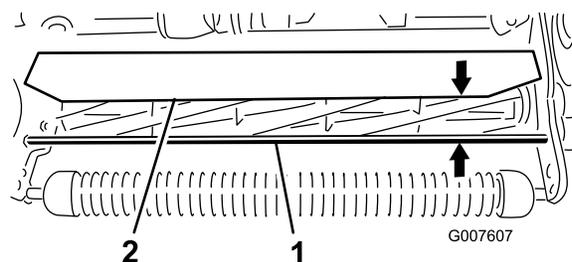

Figure 55
- Measure the distance from the top of the front support rod to the front lip of the shield at each end of the cutting unit (Figure 55).